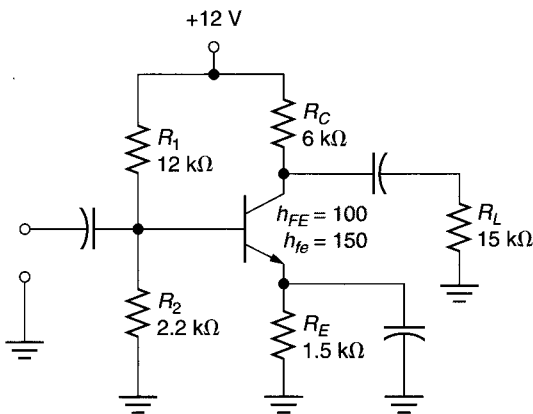

FIGURE 9.30
7. Determine the value of  $r'_e$  for the circuit shown in Figure 9.30.
9. Derive the ac equivalent circuit for the amplifier shown in Figure 9.30. Include all component values.
19. Determine the value of  $A_v$  for the amplifier in Figure 9.30.
25. Determine the value of  $A_p$  for the circuit shown in Figure 9.30. Assume that the circuit has a value of  $A_i = 14$ .
31. Calculate the open-load voltage gain for the circuit shown in Figure 9.30.
35. Determine the values of  $Z_{in(base)}$  and  $Z_{in}$  for the amplifier in Figure 9.30.